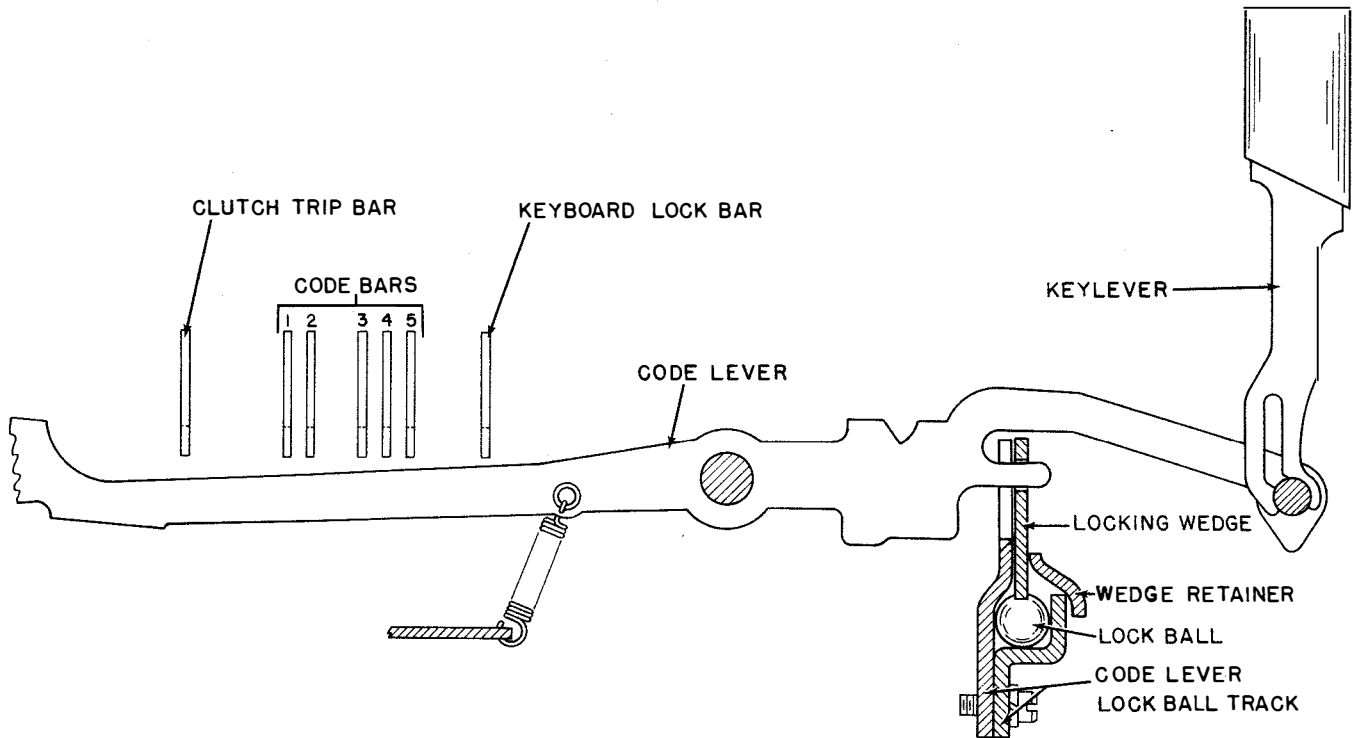

Figure 2-4. Code Bar Arrangement
c. CODE BAR MECHANISM.—The code bar mechanism is located in the front underside portion of the Keyboard. Each keylever in the lower three rows (green), and the space bar is connected to a code lever and each keylever in the upper row (red), is connected to a function lever. The code and function levers pivot about points near their midportions (figure 2-4). Located above the rear half of the code levers and running parallel with the front of the Keyboard are, from rear to front, the clutch trip bar, the numbers 1, 2, 3, 4, and 5 code bars, and the lock bar. The rear portion of each code or function lever normally is held downward by a spring so that the front end with its attached keylever is held upward. A locking wedge is mounted on the projection of the lower front portion of all code levers, the local line feed function lever, and the local carriage return function lever (figures 2-4 and 2-5). If one of these levers is operated, its locking wedge moves downward between the lock balls in the lock ball track, and crowds them together. This prevents any other lever with a locking wedge from being operated at the same time. With the keyboard shaft in its stop position, the clutch trip bar and the five code bars are held toward the left (front view), against the tension of their springs, by the latched-up code bar bail. When any green keylever or the space bar is depressed, the rear end of the associated code lever engages and lifts the